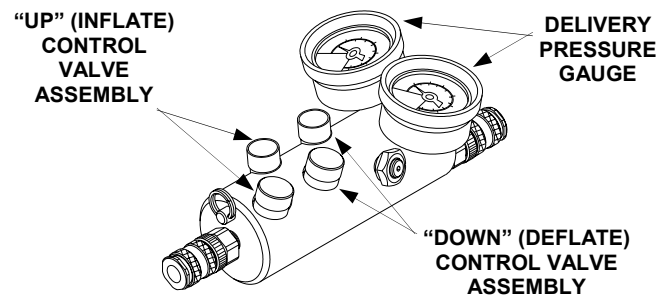

Figure 1-8. Dual “Deadman” Safety Relief and Control Valve
d. The dual "deadman" safety relief and control valve (figure 1-8) is a single input/dual output controller incorporating quick disconnect hose fittings and dual push-button controls to apply and release air pressure to either one or two lift bags. Two gauges are provided to monitor the air pressure applied to either one or two bag(s) and a 118 psi (8.1 Bar) relief valve is incorporated to limit the applied air pressure. Inflation and deflation is accomplished by depressing the associated valve spring loaded push-button.